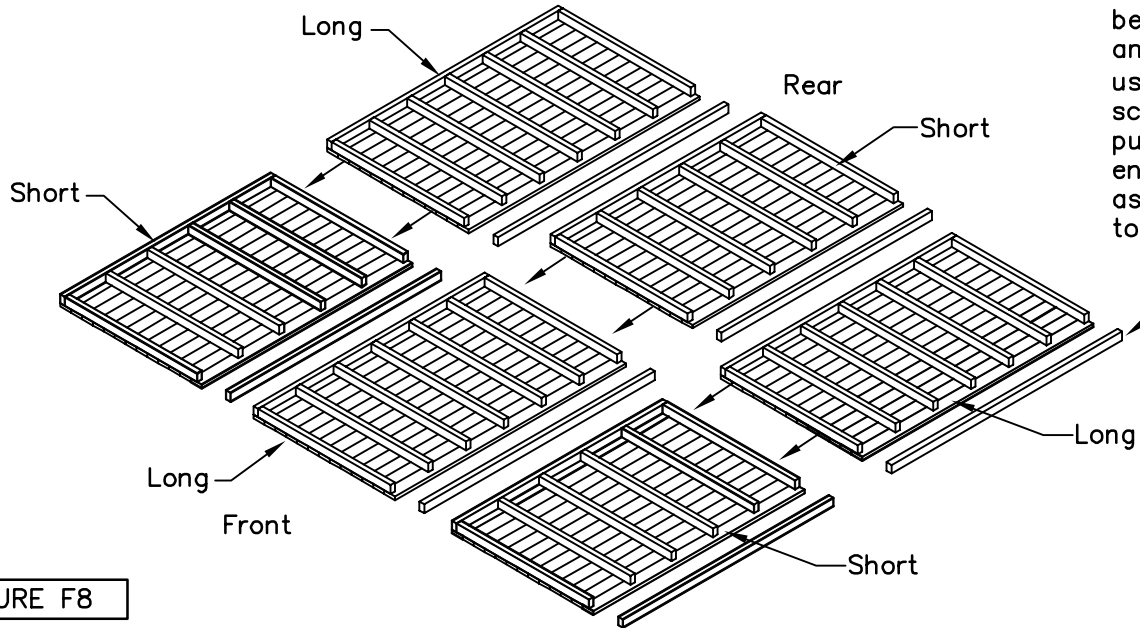

FIGURE F8
- Unpack the floor sections and place them on level ground with decking facing down as shown in Figure F8. Push the floor panels together as shown in Figure F8. It is recommended to mix the short and long floor panels as shown to strengthen the floor system.